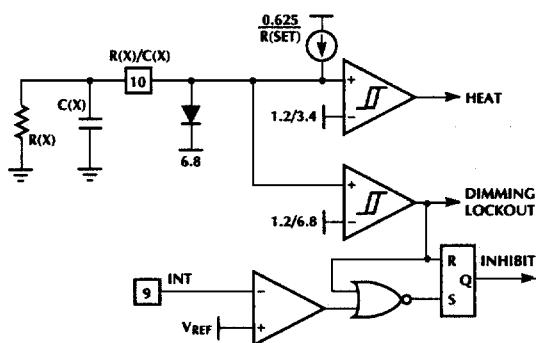

Figure 7. Lamp Preheat and Interrupt Timers
The circuit in Figure 7 controls the lamp starting scenarios: Filament preheat and Lamp Out interrupt. C(X) is charged with a current of $I_{R(SET)}/4$ and discharged through R(X). The voltage at C(X) is initialized to 0.7V (V_{BE}) at power up. The time for C(X) to rise to 3.4V is the filament preheat time. During that time, the oscillator charging current (I_{CHG}) is $2.5/R(SET)$. This will produce a high frequency for filament preheat, but will not produce sufficient voltage to ignite the lamp.